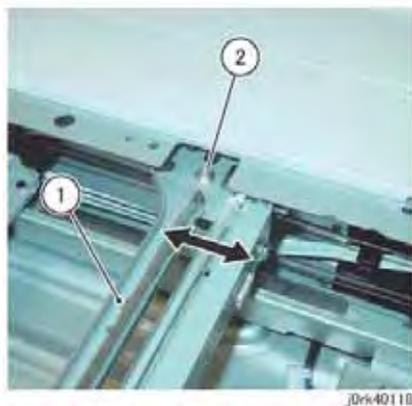

Figure 3 Full Carriage Cable
6. Unfasten the Full Rate Carriage from the Carriage Cable (Figure 3)